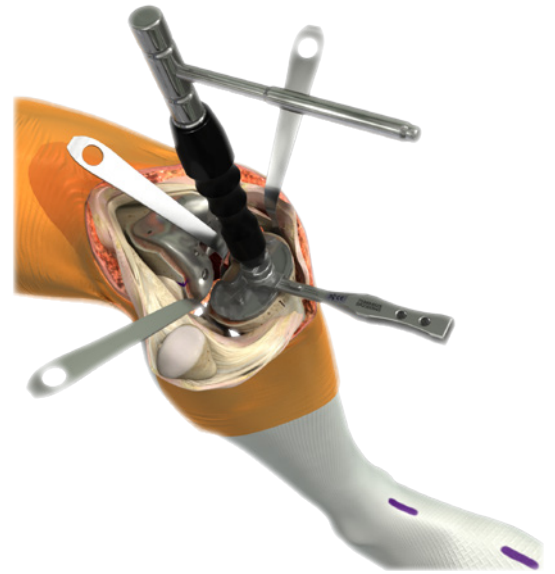

Figure 24b
4. Select the appropriate modular fin punch to prepare the keel and attach to the modular handle. Keel punch through the baseplate. To remove the keel punch, disengage the modular handle and then use the slap hammer to remove from the bone (Figure 24b).